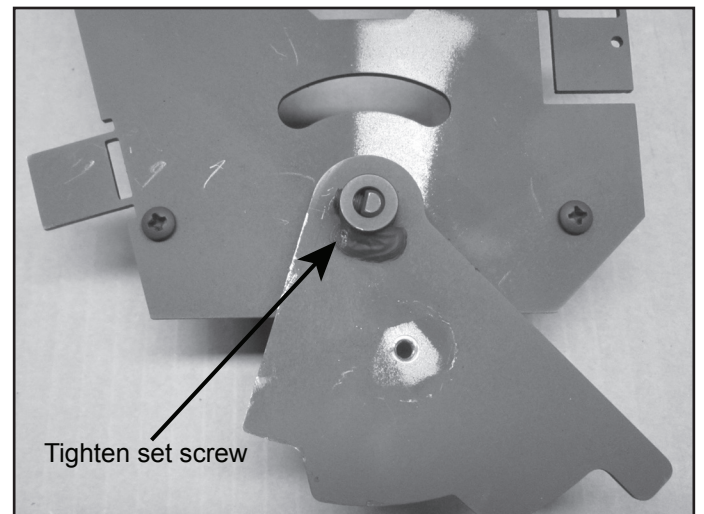

Figure 4.24 Linkage Control Arm Installed
- Place linkage control arm over timer shaft and tighten set screw, Figure 4.24.
- Rotate linkage control arm into final position and re-attach to mounting plate. Note that the D cut is now facing the linkage timer arm. Re-attach the linkage timer arm, Figure 4.24.